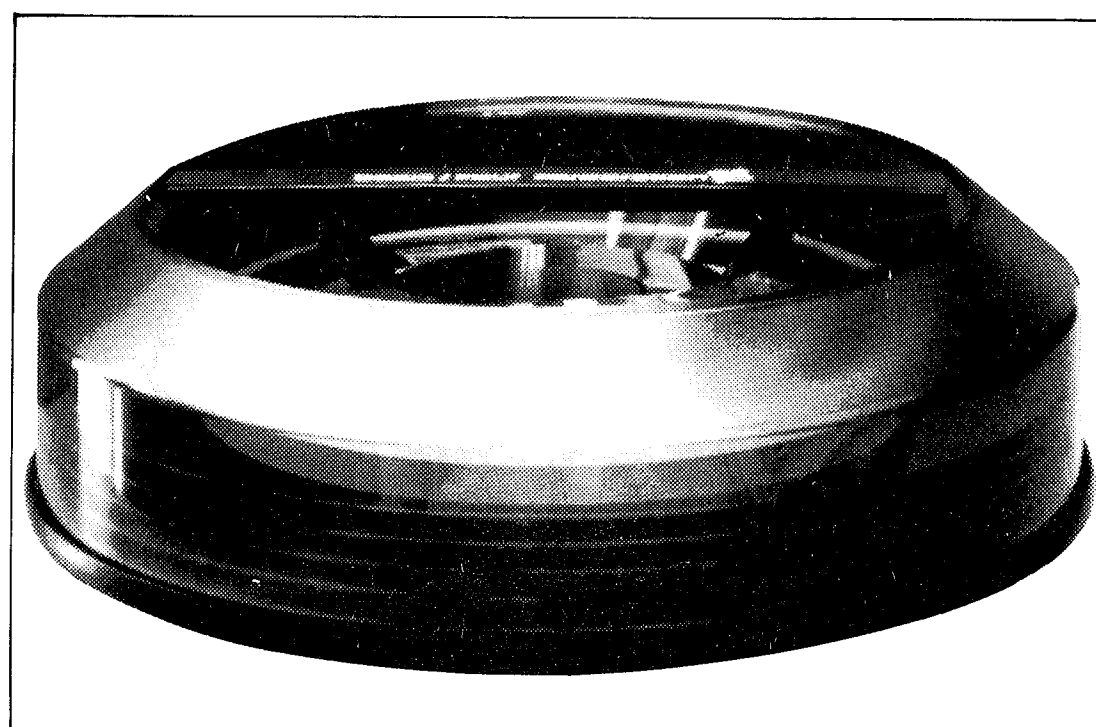

Figure 4. Disc Pack
- Grasp the top cover handle and remove the lower cover from the disc pack by squeezing the locking mechanism located on the bottom side of the lower cover (Figure 4). Lower the disc pack carefully onto the spindle (Figure 5).